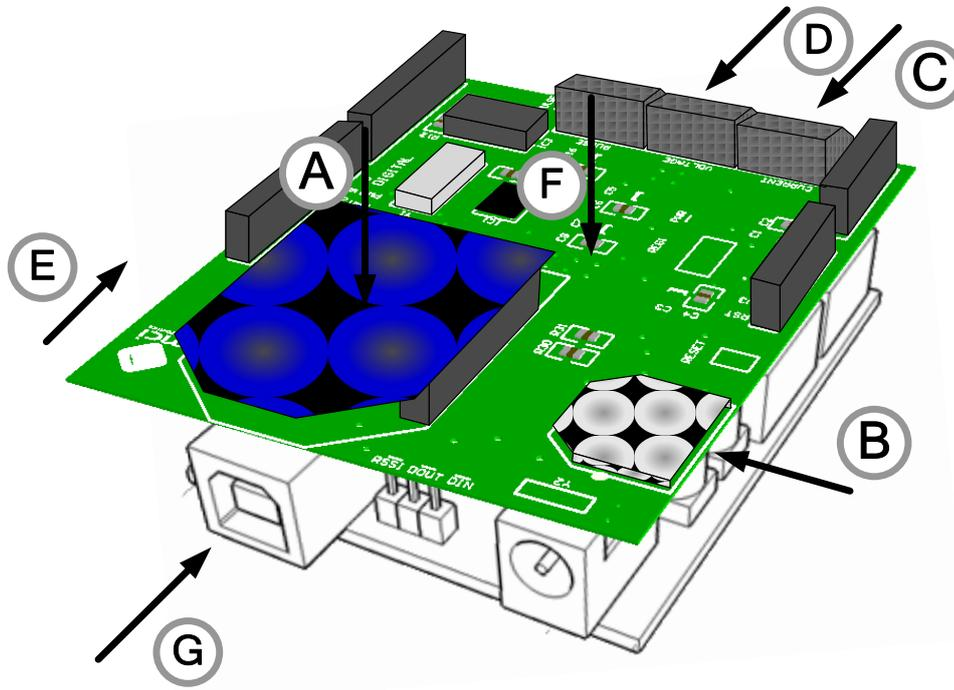

Fig.2 Arduino Energy Shield assembly.
- E. Place the shield over the Arduino main board as shown in figure 2. It is important to mention that the pin headers that connect the shield with Arduino have only one position.